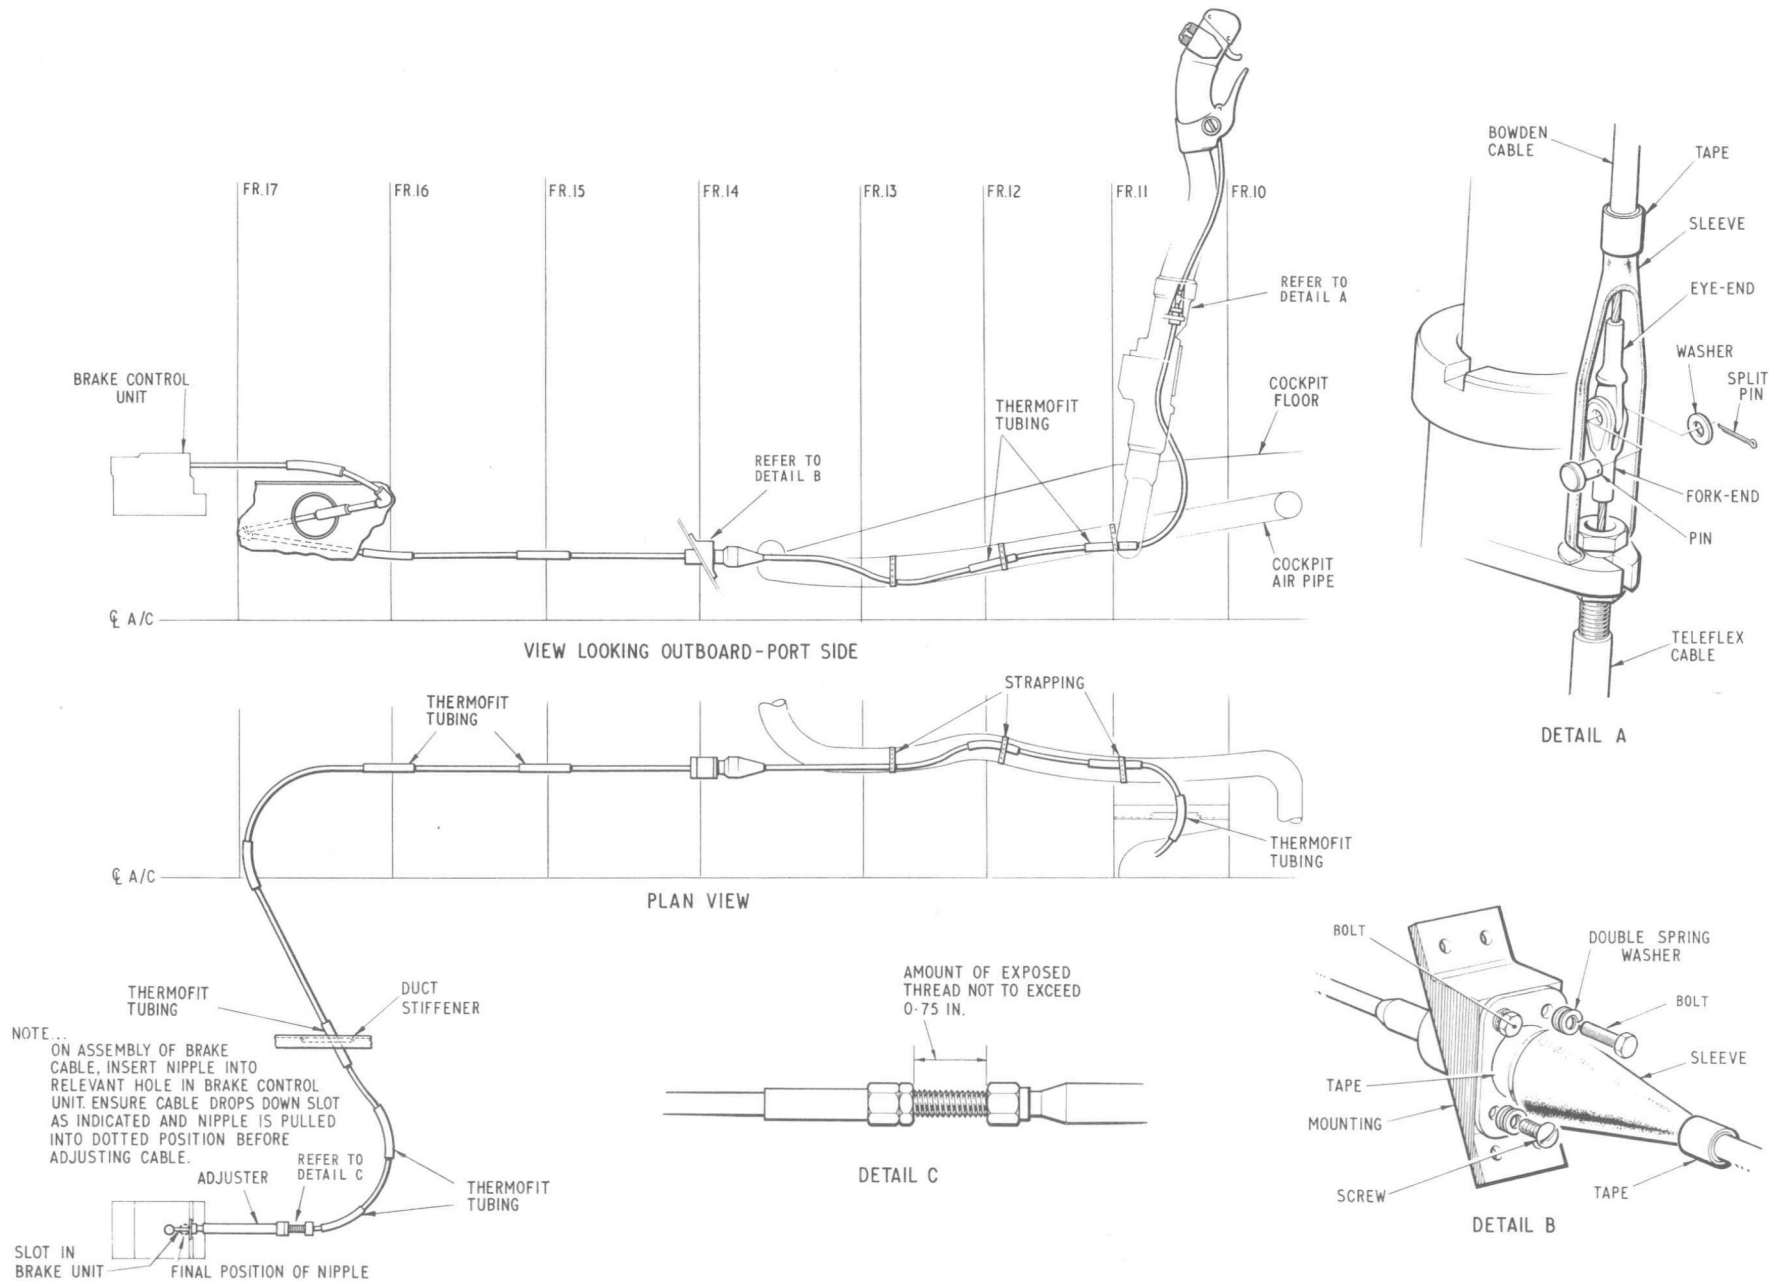

FIG. 2. CONTROL CABLE ROUTEING
Cable run (fig.2)
(2) Preset the adjuster at the nipple end of the cable to give 0.75 in. of exposed thread (fig.2, detail C) and tighten the locknut. Pass the nipple end of the cable through frame 17 and refit the nipple in the brake control unit as shown in fig.2.
(3) Examine the cable run between the brake-control unit and the pressure bulkhead and ensure that the positions of the rubber protection sleeves are as shown in fig.2.
(4) At the control column, reconnect the fork end of the cable with the eye end on the Bowden cable using the shackle pin, washer and a new
(5) Tension the cable at the adjusting screw and tighten the locknut.
(6) Refit pipes removed in para.6, sub-para. (8).
(7) Refit cable conduit assembly removed in para.6, sub-para. (7).
(8) Re-strap the cable to the cockpit air pipe between frames 10 and 13 as shown in fig.2. Check the cable for free travel. Move the control column through its full range fore and aft and side to side, while ensuring that the cable loop is not strained and that the cable does not foul the balance weights or their attachment brackets and bolts. Ensure also, that the balance weight attachment bolts are fitted with their heads on the out-board side.
(9) Position the Neoprene cover over the cable pin